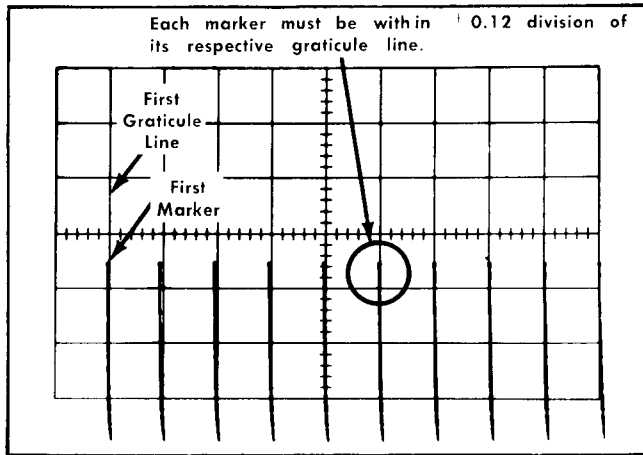

Fig. 5-14. Typical crt display when checking magnified linearity.
- c. Check—Displacement of each marker from its respective graticule line not to exceed ± 0.12 division ($\pm 1.5\%$); see Fig. 5-14.